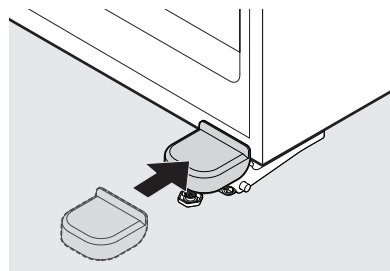

Figure 7
18. Reinstall the hinge cover by gently bending the cover tabs outward, while sliding the cover over the hinge until it clicks into place (see Figure 7).